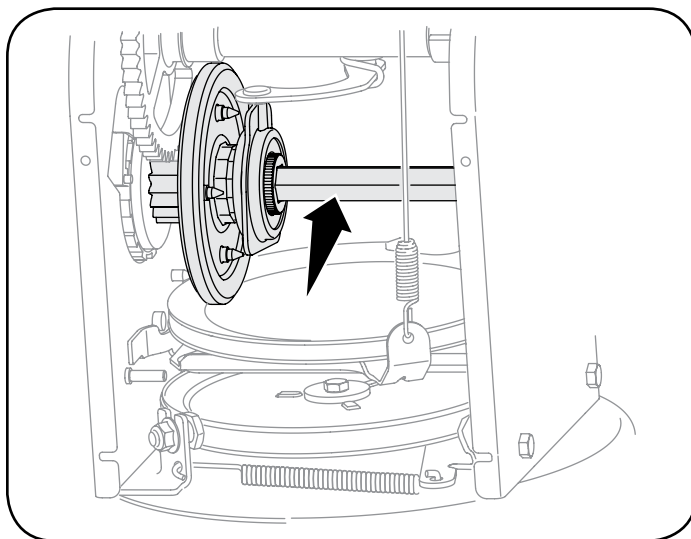

Figure 45
4. Apply a light coating of anti-seize to the hex shaft. See Figure 45.